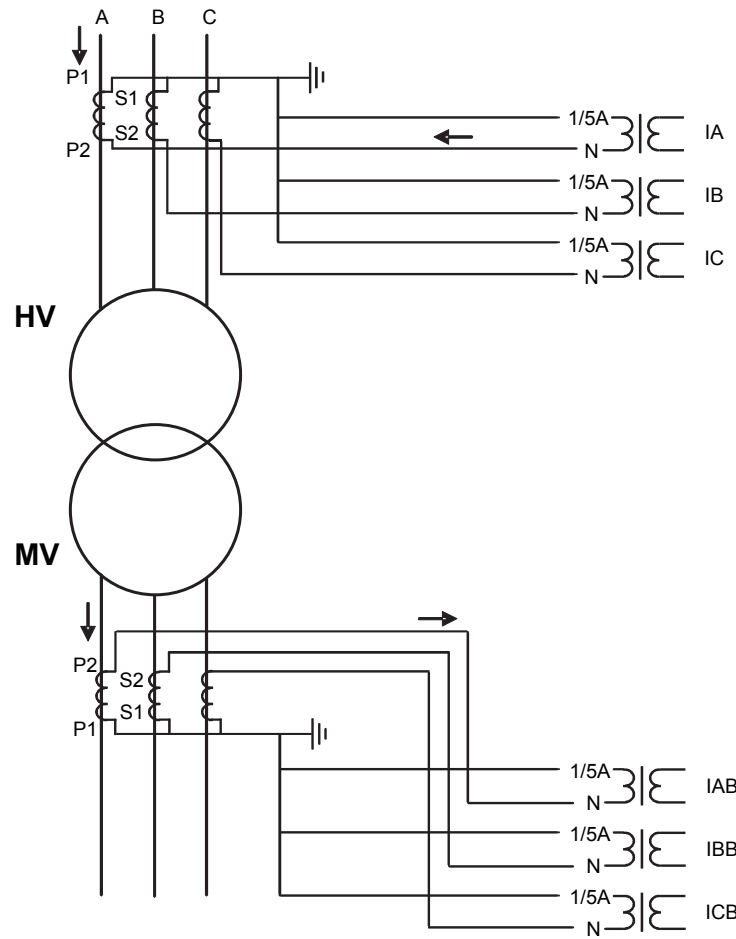
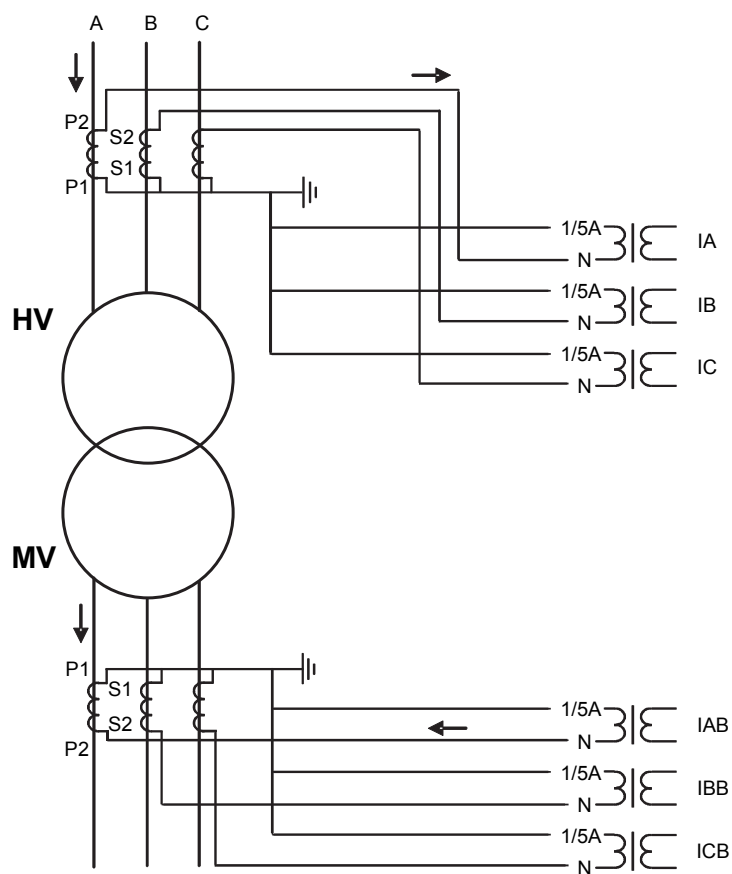

Figure 262: Connection example of current transformers of Type 1
Figure 263: Alternative connection example of current transformers of Type 1
- If the positive directions of the winding 1 and winding 2 protection relay currents are opposite, the *CT connection type* setting parameter is "Type 1". The connection examples of "Type 1" are as shown in Figure 262 and Figure 263.